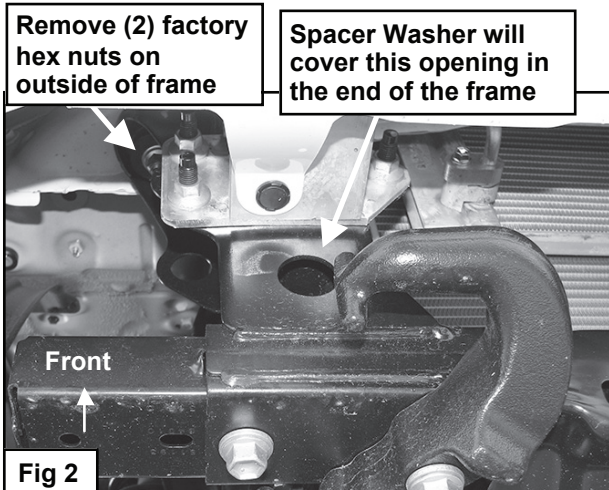

Fig 2
Start installation at the passenger side, front of the vehicle. Remove the (2) outer factory hex nuts attaching the aluminum bumper mount to the end of the frame, (Fig 2).